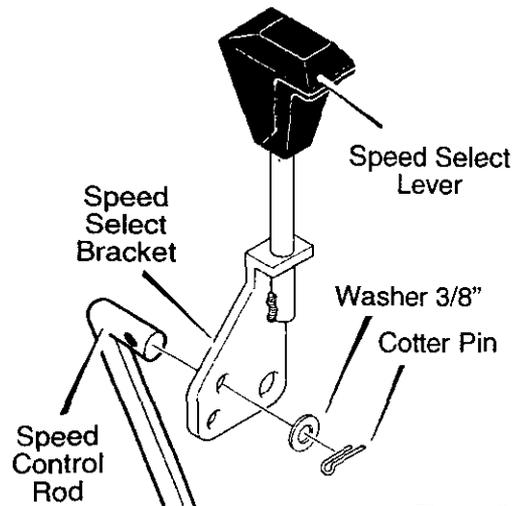

Figure 9
2. Attach the **speed control rod** (end with 90° bend) to the **speed select bracket** with **washer and cotter pin**. See Figure 9.